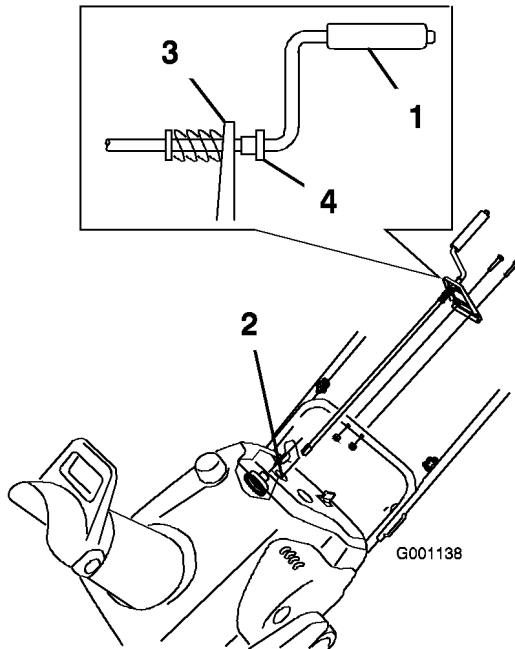

Figure 8
1. Insert the end of the chute crank through the hole in the shroud and align the mounting bracket with the holes in the lower handle (Figure 8).
Note: Ensure that the plastic bushing is fully inserted into the hole in the mounting bracket (Figure 8).